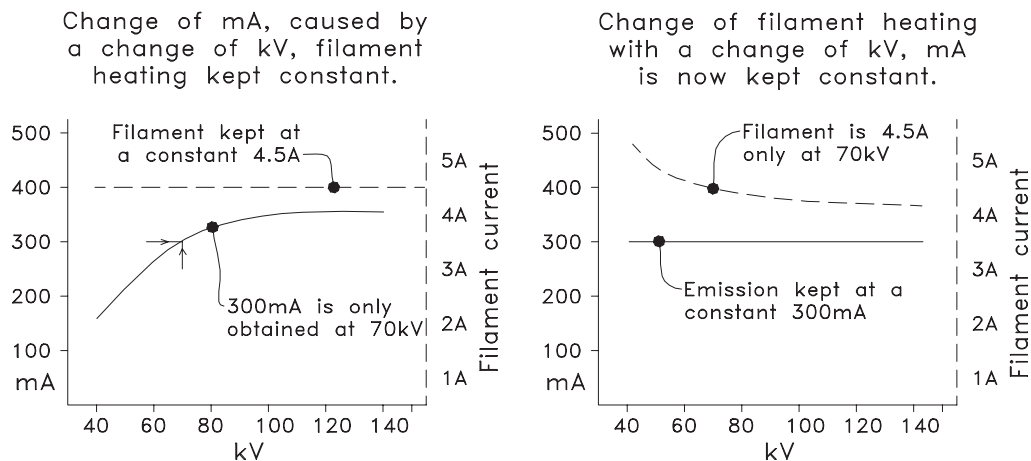

Fig E-27. These two graphs illustrate the need to modify filament heating, as kV is changed
- Modify the filament current as the set kV, before an exposure, is selected. This is to ensure emission is constant over the range of available kV, and is called 'space charge' compensation. See Fig E-27.